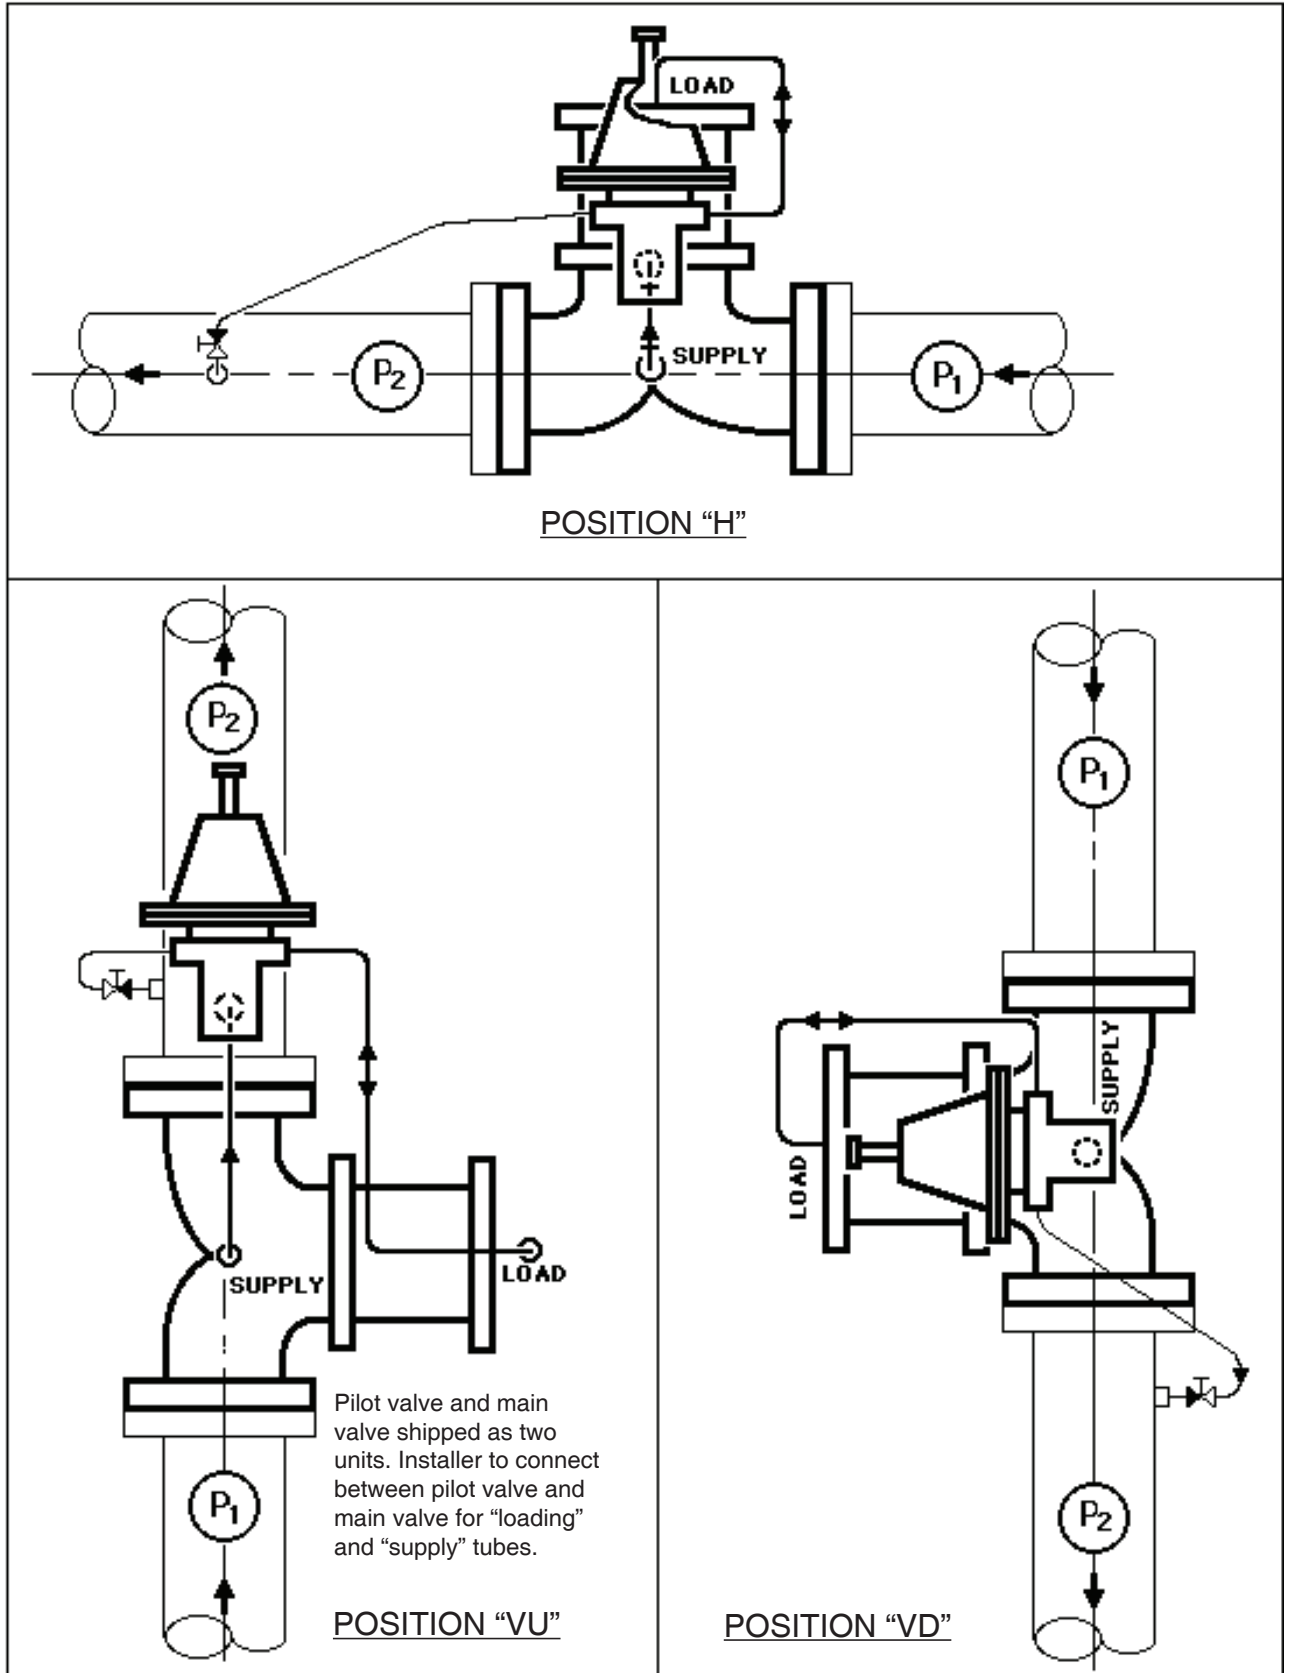

FIGURE 2
10. See Figure 2 for installation orientation for horizontal or vertical piping. For best performance Cashco recommends installing in a well drained horizontal pipe, properly trapped.